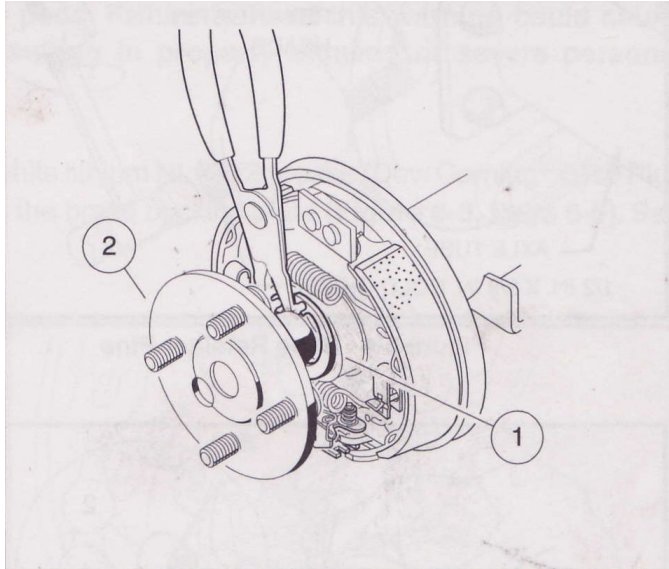

Figure 6-3
- 6.1 Using 90° snap ring pliers, remove the axle retaining ring (1) (Figure 6-3)
- 6.2 Pull the axle shaft (2) from the axle tube (Figure 6-3).
7. Install the axle shaft (2) into the axle tube and install the retaining ring (1) (Figure 6-3). See following WARNING and CAUTION.
- 5.1 Using 90° snap ring pliers, remove the axle retaining ring (1) (Figure 6-3).
- 5.2 Pull the axle shaft (2) from the axle tube (Figure 6-3).